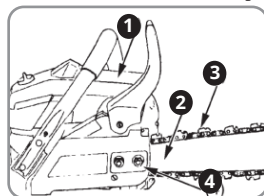

Fig. 1
- Never touch the cover, guide bar, saw chain or nut with bare hands while the engine is in operation or immediately after shutting down the engine (fig. 1). Doing so could result in serious burns because of high temperature.